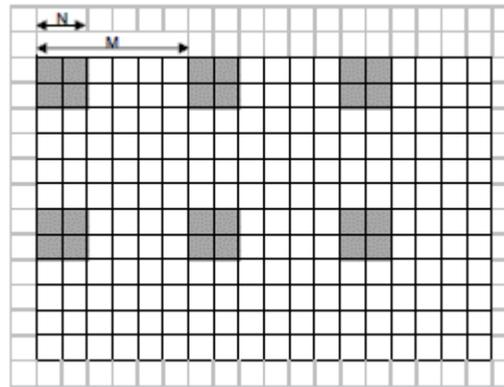
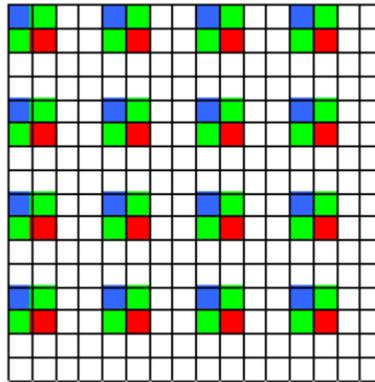

Figure 36: Monochrome subsampling with  $N = 2$  and  $M = 6$ .
Figure 37: Color subsampling with  $N = 2$  and  $M = 4$ .
Cheetah cameras provide a flexible subsampling capability. You define the number of sequential pixels to read out (N) and the total number of pixels of the contiguous area (pixels readout + pixels skipped) (M). The subsampling decimation factors (N and M) apply along both rows and columns as shown (Figure 36 and Figure 37). The camera adjusts AOI size depending on subsampling factor, averaging factor, and the presence of a color filter array on the image sensor.